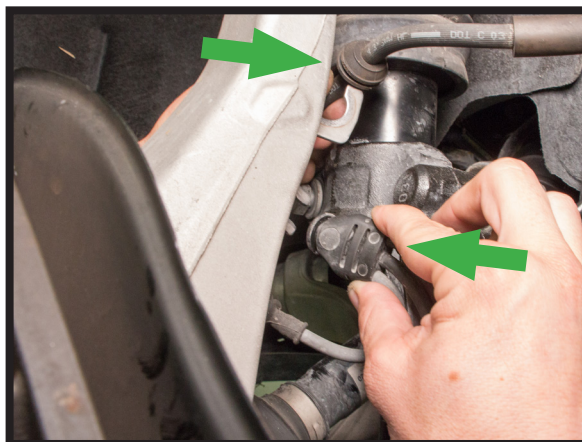

FIGURE 11
10. REMOVE RUBBER GROMMETS FROM SPINDLE ASSEMBLY. (FIGURE 11)